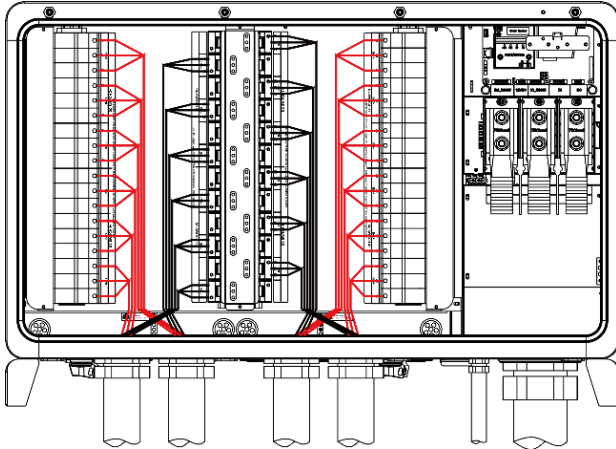
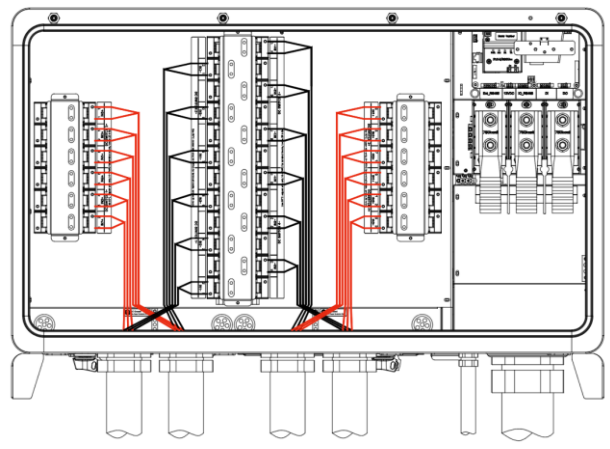

Figure 4-10a Connect the DC Cable to the Fuse Holder
Figure 4-10b Connect the DC Cable to the DC Terminal
2. Connect the DC cables to the fuse holders of the 36 input inverter as shown in Figure 4-10a, or connect to the DC terminals of the 24 input inverter as shown in Figure 4-10b, then tighten the screws.